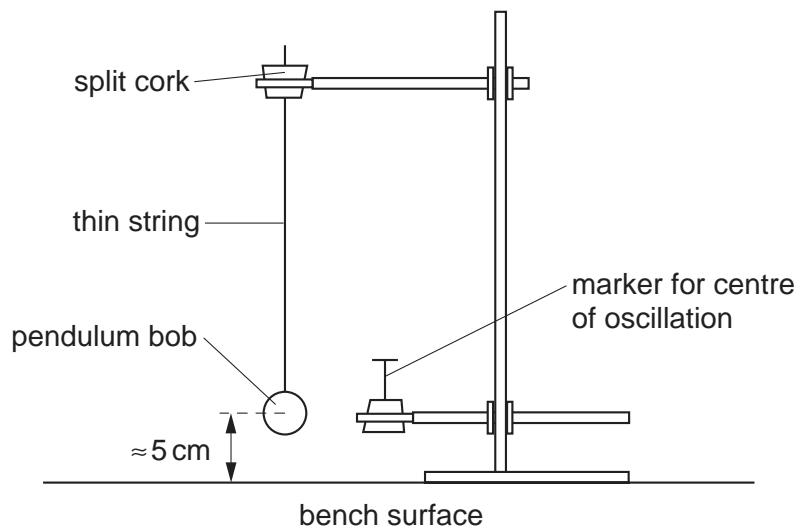

Fig. 4.1
- (i) Using the thin string and the pendulum bob, the Supervisor should construct a simple pendulum. The string of the pendulum should pass through the split cork that is supported by the clamp and stand. The clamp should be held close to the top of the stand with a label on the boss stating "Do not adjust the boss". The length of the string should be adjusted so that the centre of the pendulum bob is approximately 5 cm above the bench surface, as shown in Fig. 4.1.
- (ii) The second boss and clamp should be used to hold the fiducial marker, as shown in Fig. 4.1.
- (iii) At the changeover, the Supervisor should check that the apparatus is still as shown in Fig. 4.1.